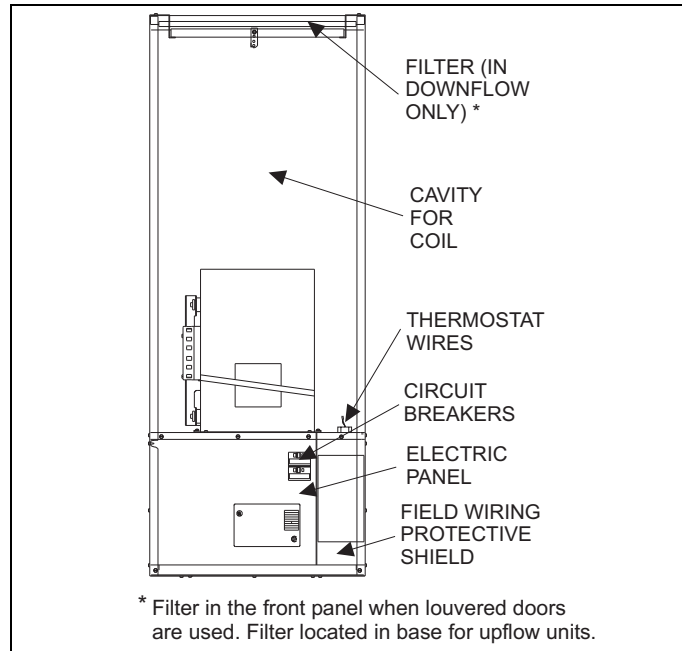

FIGURE 1: Component Locations
To remove blower from furnace, turn off power at household service box, turn furnace circuit breakers OFF. Disconnect wiring to blower, and remove five (5) screws holding blower in furnace and slide blower out from front of the furnace. See Figure 1.
Your electric furnace is equipped with a unique safety feature - circuit breakers. These circuit breakers are located behind the door of the furnace, near the bottom of the furnace. See Figure 1. If a component should fail inside the furnace, the circuit breakers will prevent damage that can be caused by an electrical short. If the breakers ever trip, they can be reset by first turning off the power to the furnace at the home's circuit breaker panel. See Warning below. Then remove the furnace door and reset the circuit breaker in the furnace. Re-install the furnace door and turn the power back on at the home's breaker panel. If for some reason these circuit breakers should trip again, a service technician should be contacted as a problem exists inside the furnace. A list of authorized service centers is provided with every furnace and will assist you in obtaining service for your furnace.
FILTER LOCATION: The furnace's front panel must be removed to gain access to the filter of the downflow furnace. (See Figure 1.) However, the filter for the upflow furnace* is located behind the return air grill, adjacent to the furnace closet or any other location in the return air.